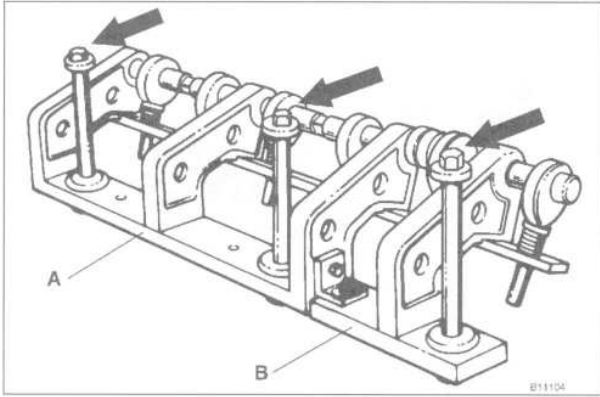

Fig. 26. Special BMW tool no. 11 3 260 (A) with adaptor 11 3 270 (B). Tool mounting bolts (arrows) thread into spark plug holes.
2. With the cylinder head mounted to an appropriate work stand, remove the spark plugs and install BMW special tool 11 3 260/11 3 270 to the top of the cylinder head. Do not over tighten the tool mounting bolts in the spark plug holes. See Fig. 26.